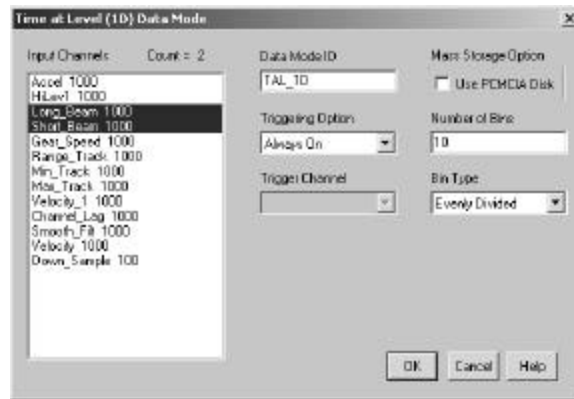

Figure 9-5: Time at Level (One Dimensional) Definition Dialog Box
1. Select the particular Time At Level at the Select Data Mode Type dialog box (1D for one-dimensional, mD for multi-dimensional); the appropriate Time at Level DataMode definition dialog box opens. **Figure 9-5** shows the dialog box for a one-dimensional TAL DataMode with sample definition data. The dialog box is essentially the same for both Time At Level types except for the box title.